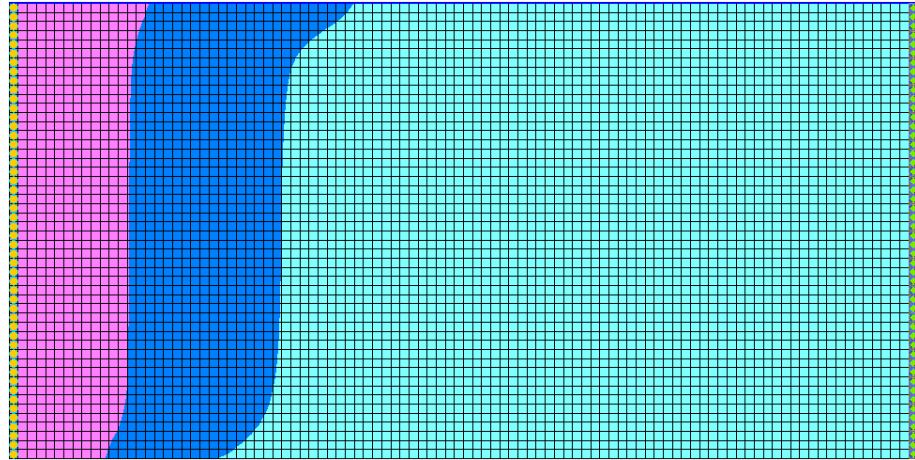

Figure 7 Select the rightmost column of cells in the model
- Using the **Select Cells**  tool, select all the cells in the rightmost column (Figure 7) by dragging a box around them.